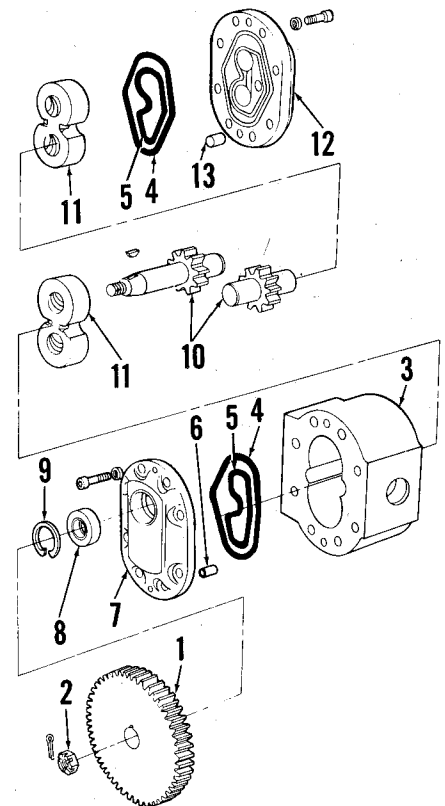

Fig. 213—Exploded view of hydraulic pump assembly used on TW-10 and TW-20 models.
237. TW-10 AND TW-20. Refer to Fig. 213 and remove cotter pin and nut securing pump drive gear then remove drive gear using suitable puller. Remove woodruff key from shaft. Remove 16 bolts and lock washers securing front and rear cover to body. Remove rear cover by lightly tapping pump shaft with a rubber mallet. After rear cover is removed, lightly tap gear shafts with mallet to remove front cover. Keep components in order as removed. Remove pressure loading rings (5) and seal rings (4) from front and rear covers (7 and 12).